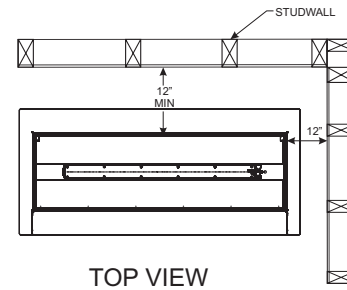

Figure 6
- With walls on back and one side, but with no overhead cover. See **Figures 6**.
NOTICE: For installations with a rear wall and side wall, refer to **Figures 6 and 9.**